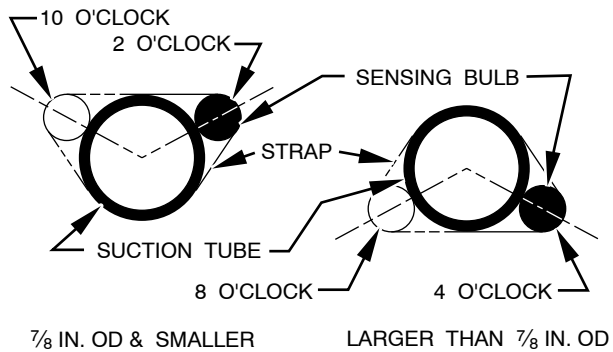

Fig. 4 - Position of Sensing Bulb
8. Attach TXV bulb to horizontal section of suction line using clamps provided. Insulate bulb with field-supplied insulation tape. See Fig. 4 for correct positioning of sensing bulb.
9. Reinstall TXV support clamp (removed in item 3).
10. Attach TXV bulb to vapor tube inside cabinet, in same location as original was when removed, using supplied bulb clamps (nylon or copper). See Fig. 4 for correct positioning of sensing bulb.